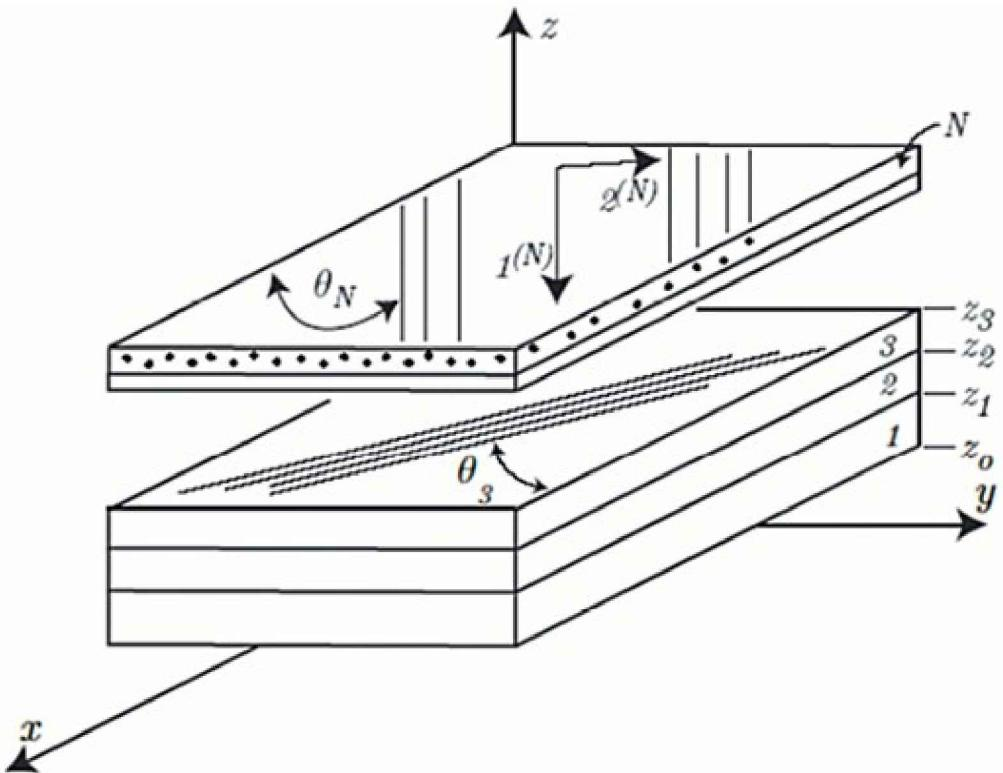

Figure 6.3. Composite and ply coordinate systems
- The *Ply coordinate system* determines the orientation of ply fibers (Figure 6.3) (axis 1).
Figure 6.3 shows a composite ply layup. The XY plane location is defined by the reference plane. X and Y axes match the material orientation coordinate system that is called the *Laminate coordinate system*. The Z axis is directed along the normal vector of the composite. Axes 1 and 2 correspond to the ply coordinate system, axis 1 runs along the fiber in unidirectional-type plies, while in woven-type fabrics, it runs along the warp fibers. Axis 2 is directed along the normal to the fiber and corresponds to the weft direction in the woven ply. The θ angle is the angle between axes X and 1. The Z coordinate is responsible for the position of plies with regard to the reference plane.